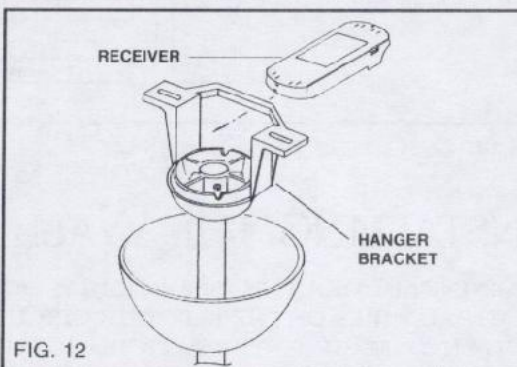

FIG. 12
**Step 1.** (Fig. 12). Insert the receiver into the Mounting Bracket, with the flat side of the Receiver facing the ceiling.